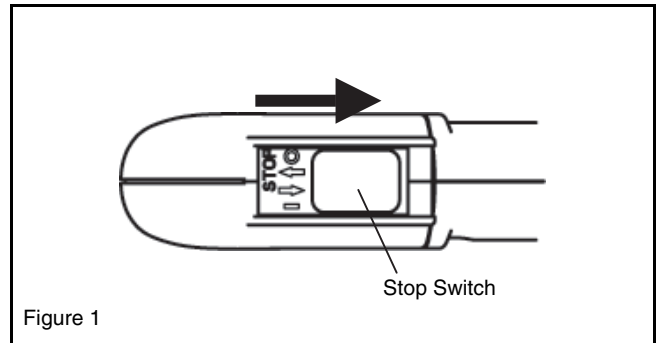

Figure 1
- (1) Set this machine on a flat space.
- (2) Set the stop switch to "I" position (Figure 1).